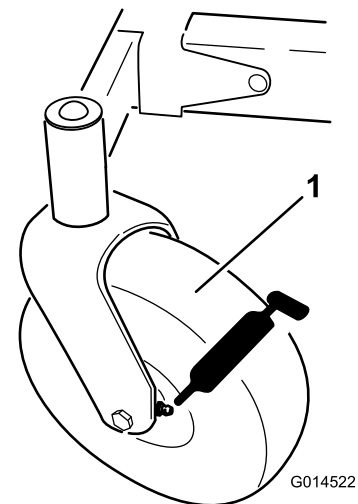
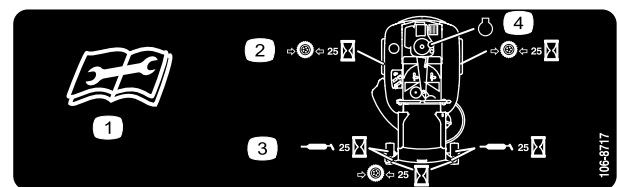

Figure 29
Figure 30
3. Clean the grease fittings (Figure 29 and Figure 30) with a rag. Make sure to scrape any paint off of the front of the fitting(s).
4. Connect a grease gun to each fitting (Figure 29 and Figure 30). Pump grease into the fittings until grease begins to ooze out of the bearings.